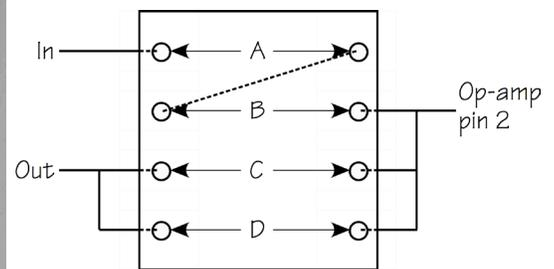

Fig. 5—Jumper positions
11. On the prebuilt op-amp board, insert a 1-k $\Omega$  resistor into jumper position A, a jumper into position B, and a 47-k $\Omega$  resistor into position D (see Fig. 5).
13. Connect the correct +6-V and -6-V batteries to the prebuilt op-amp board (see Fig. 5).